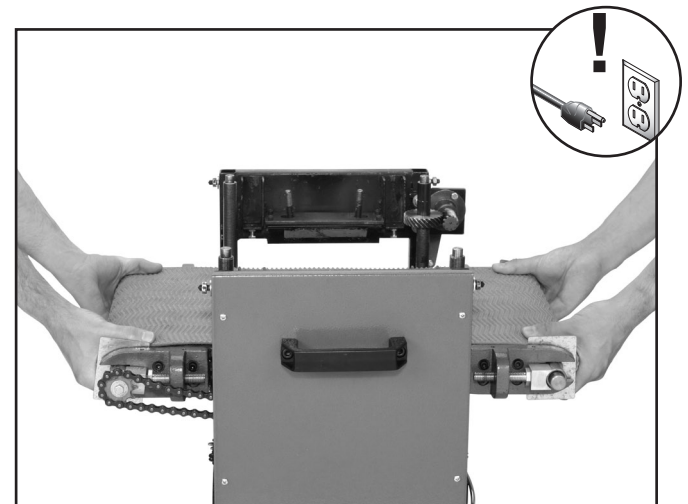

Figure 48. Lifting the table off of the drum sander cabinet with two people.
17. With the help of an assistant, carefully lift the table off of the drum sander cabinet, as shown in **Figure 48**.